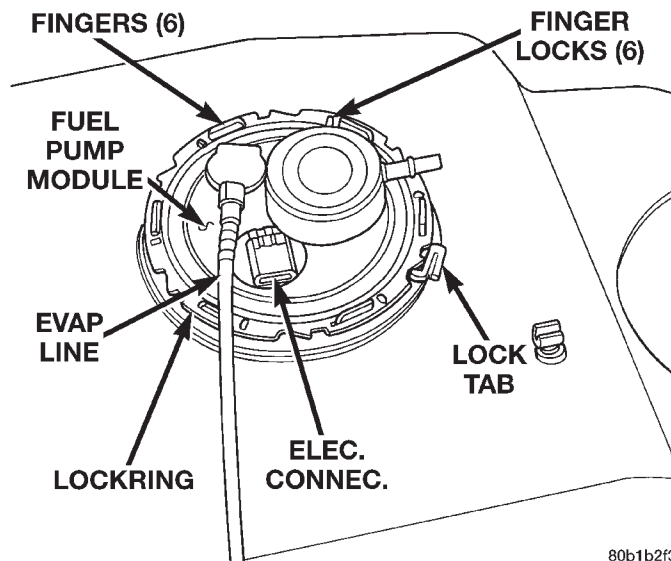

Fig. 25 Fuel Pump Module and Lockring
(1) Drain fuel tank and remove tank. Refer to Fuel Tank Removal/Installation in this group.
(2) Thoroughly wash and clean area around pump module to prevent contaminants from entering tank.
(3) Part of Fuel Tank Removal Procedure: Disconnect EVAP line at pump module (Fig. 25); disconnect wiring harness connector at pump module; disconnect fuel line from fuel filter fitting.
(4) Rotate fuel filter until its fitting is pointed towards center of pump module.
(5) A metal lockring is used to secure fuel pump module to fuel tank (Fig. 25). Six metal fingers (Fig. 25) are molded into the plastic fuel tank. The fingers are used to retain lockring to fuel tank. A rubber gasket is used as a seal between module and fuel tank.
(6) Before removing lockring, apply a small amount of engine oil to 6 fingers where fingers meet lockring (to act as a lubricant).
(7) Remove (rotate) lockring counterclockwise using a brass or bronze drift punch and a hammer. This must be done while slightly prying back on lock tab (Fig. 25).
(8) Remove lockring and pump module from fuel tank.
(1) Using a new gasket, position fuel pump module into opening in fuel tank. Be sure rubber gasket remains in place. Rotate pump module assembly until module is positioned as shown in (Fig. 25). This step must be followed to prevent float/float rod from contacting sides of fuel tank.
(2) Before installing lockring, apply a small amount of engine oil to 6 fingers where fingers meet lockring (to act as a lubricant).
(3) Position lockring over top of fuel pump module. Tighten finger tight.
(4) Install (rotate) lockring clockwise using a brass or bronze drift punch and a hammer. Continue rotating lockring until 6 fingers (Fig. 25) drop into 6 finger locks and lock tab (Fig. 25) falls into lockring notch.
(5) Install fuel tank. Refer to Fuel Tank Installation in this section.